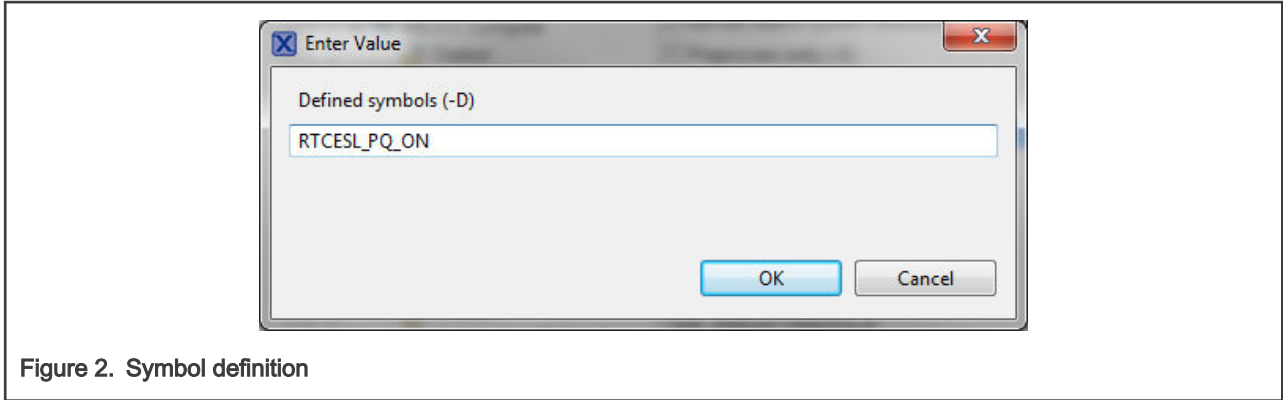

Figure 2. Symbol definition
- In the dialog that appears (see Figure 2), type the following: